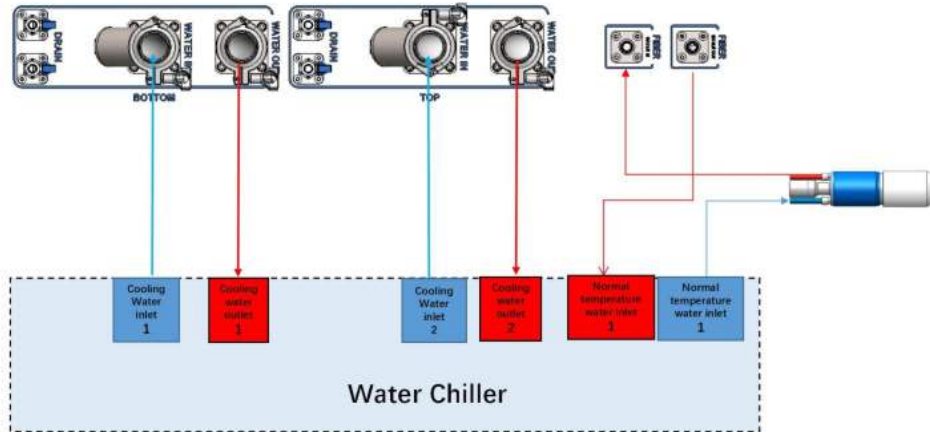
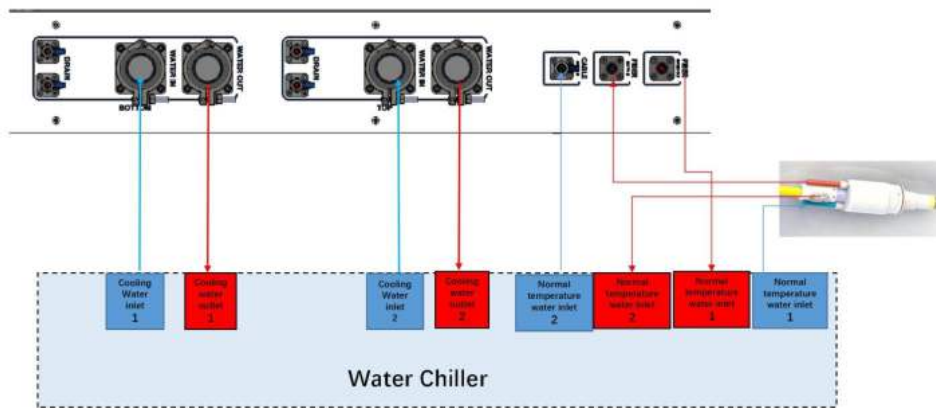

Figure 12 Schematic diagram of the cooling system connection for the RFL-C40000M
Figure 13 Schematic diagram of the cooling system connection for RFL-C60000M/80000M
g) The cooling water connection for the RFL-C40000M lasers is shown in Figure 12, and the cooling water connection for the RFL-C60000M/80000M lasers is shown in Figure 13. The direction of the arrow indicates the direction of water flow.